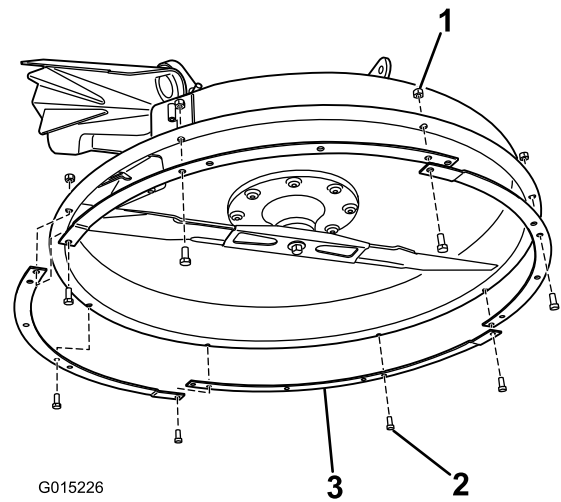

Figure 3
1. Install the interlocking deck rings to the bottom of the mower (Figure 3).